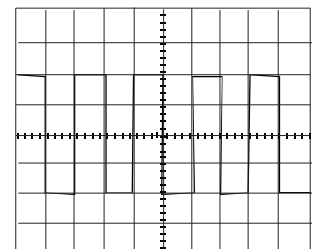

Figure 4-3
- 5) Set the AC-GND-DC switch to the AC state. A waveform as shown in the figure 4-3 will be displayed on the CRT screen.
- 8) Adjust the ▲▼ POSITION and ▶◀ POSITION controls in appropriate positions so that the displayed waveform is aligned with the graticule and voltage (Vp-p) and period (T) can be read conveniently.